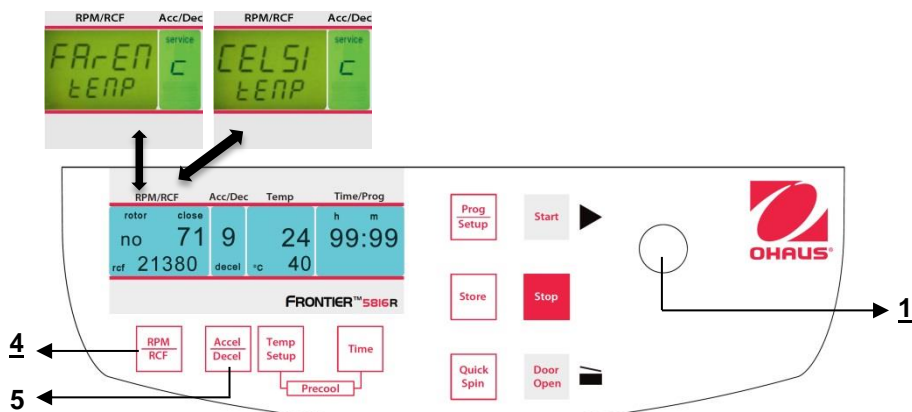

Figure 31
Proceed as described under point 4.1.1 to enter this program mode and then press the key **"Accel/Decel"** (5). In the display **"Acc/Dec"** (A-2) the word **"Service"** appears. Now select the letter **"C"** with the adjusting knob (1). As a result, in the display **"RPM | RCF"** (A-1), the words **"CELSI/temp"** appear. If you press the key **"RPM | RCF"** (4), the word **"CELSI"** flashes and you can change the display into Fahrenheit **"FAREN"**, with the adjusting knob (1) (See figure 31).